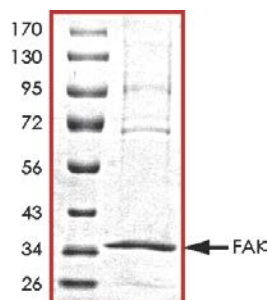

Figure 1: The approximate molecular weight is 35 kDa and the purity is > 75%.
- Molecular Mass** ♦ The approximate molecular weight is 35 kDa (see Figure 1 below).
- Purity** ♦ The purity was determined to be > 75% by densitometry (see Figure 1 below).